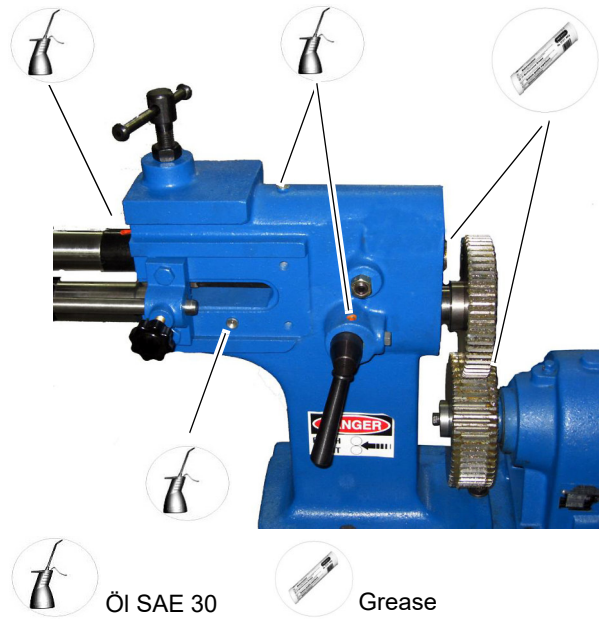

Fig. 14: Lubrication chart
10.2 Lubrication chart (Fig. 14)